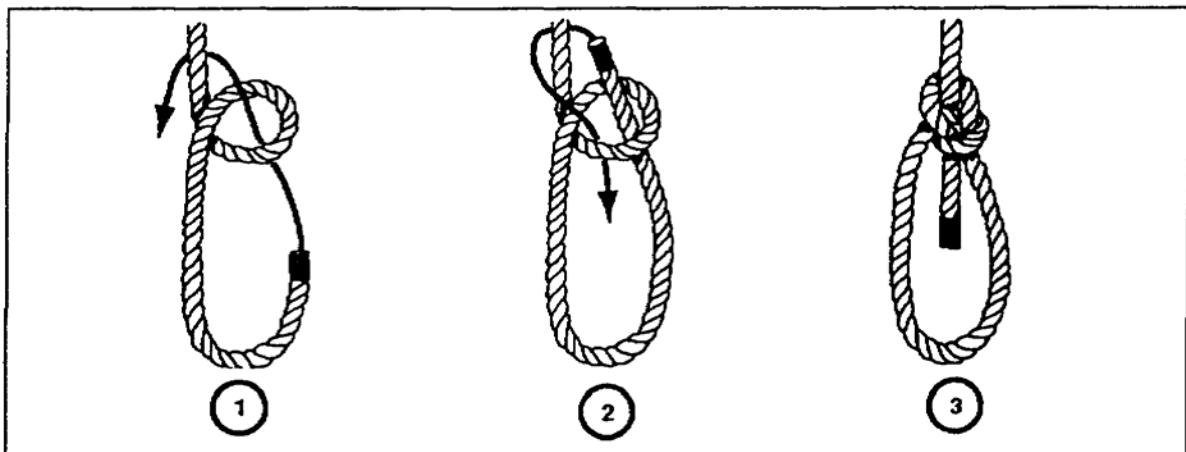

Figure 4-23. Bowline
b. Bowline. The bowline (Figure 4-23) is used to form a single loop that will not tighten or slip under strain and can be easily untied. It is one of the most common knots and has a variety of uses, one of which is the lowering of men and material.